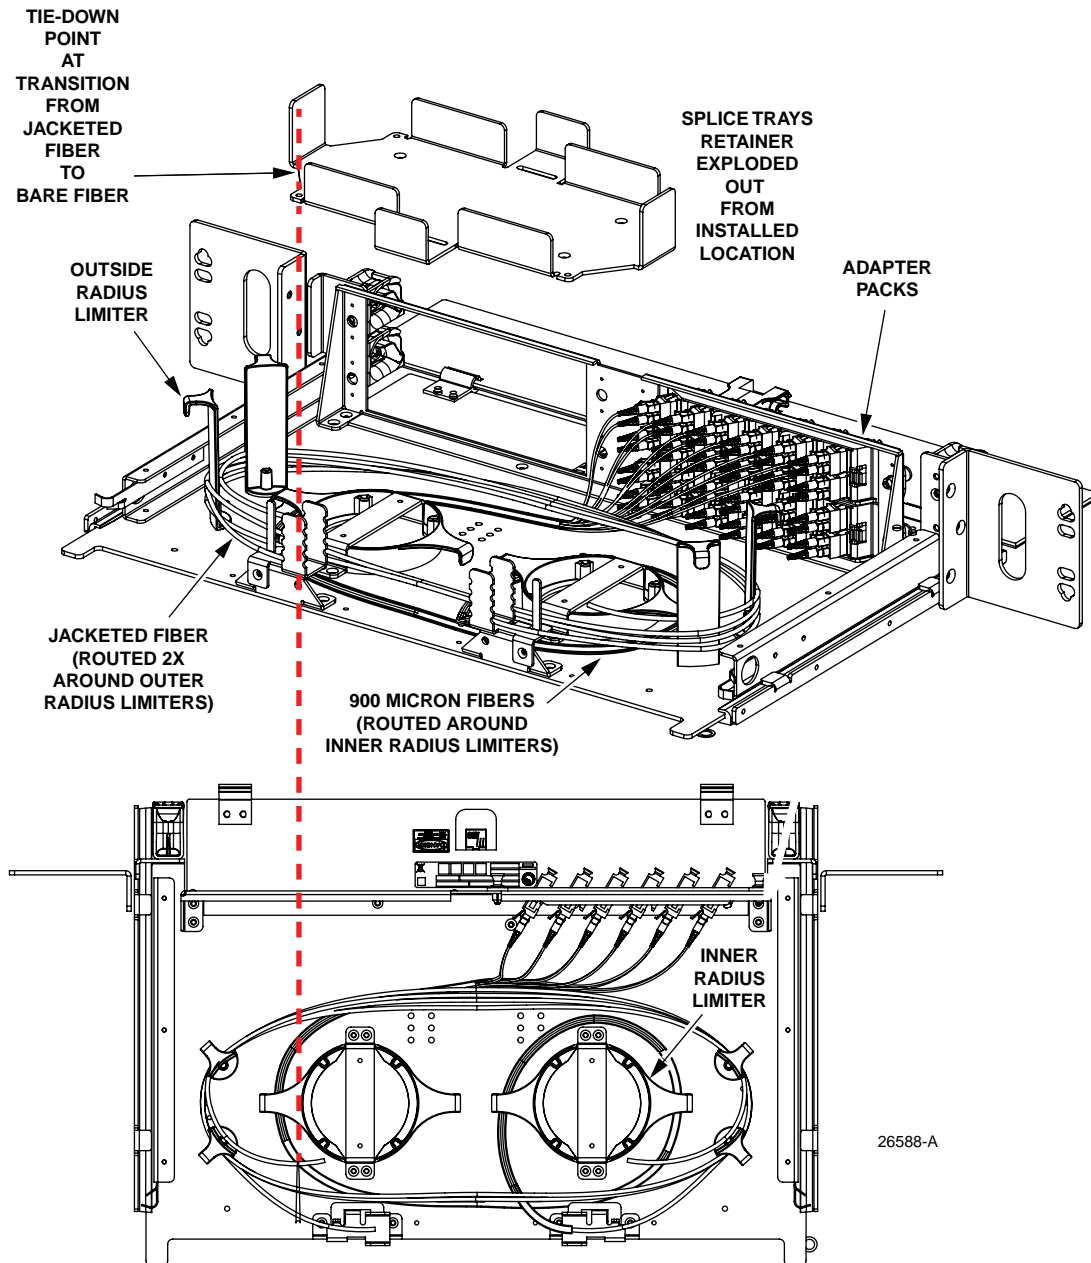

Figure 23. Stranded Pigtail Routing, Routing from Right Side (When Viewed from Rear)
- c. In the interior of the panel, route the 900um pigtail fibers around to the left in a counter-clockwise direction inside the radius limiters in the area below where the splice trays will be placed when re-installed, as shown in Figure 23.